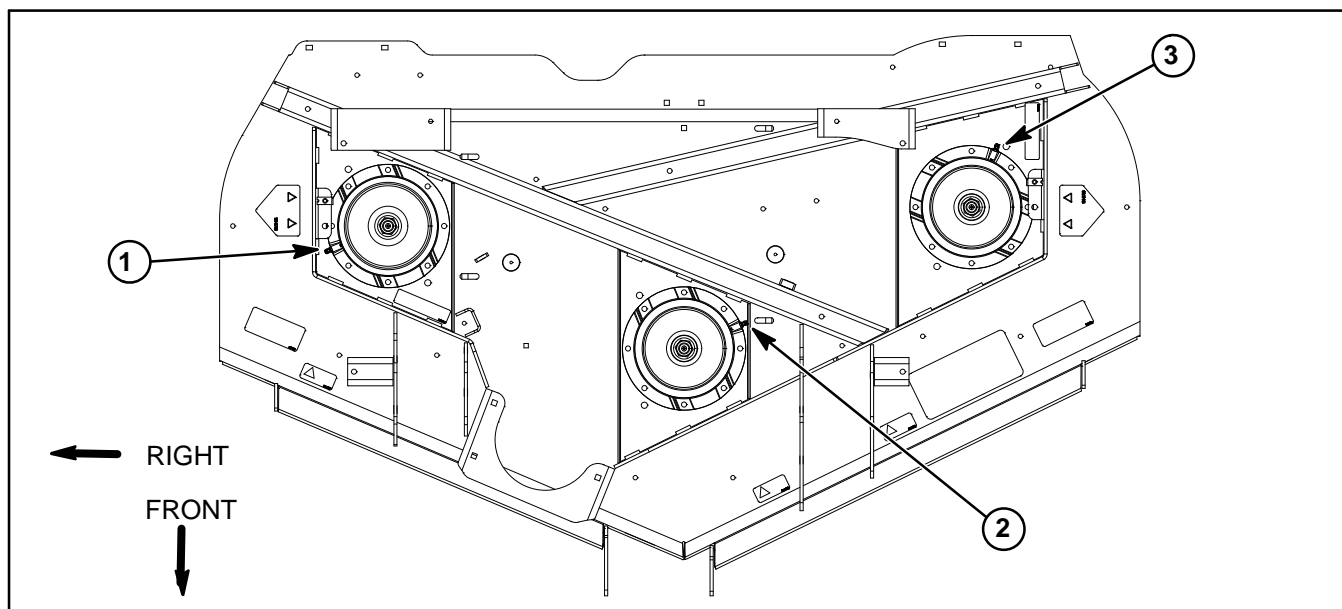

Figure 9
1. Position spindle on cutting deck noting orientation of grease fitting (Fig. 9). Secure spindle assembly to deck with removed fasteners.